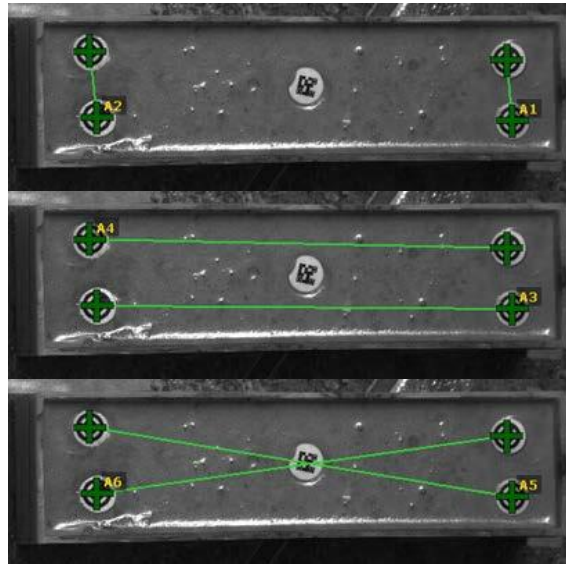

Figure 119: Automatic pairing types – a) shortest, b) optimal and c) longest
- ❖ **Automatic Pairing** – Type of automatic pairing of detected markers. It determines the desired length of resulting extension lines, as shown in Figure 119. Note that only specific cases of marker placement may effectively utilize this feature. Can be set to one of the following options: